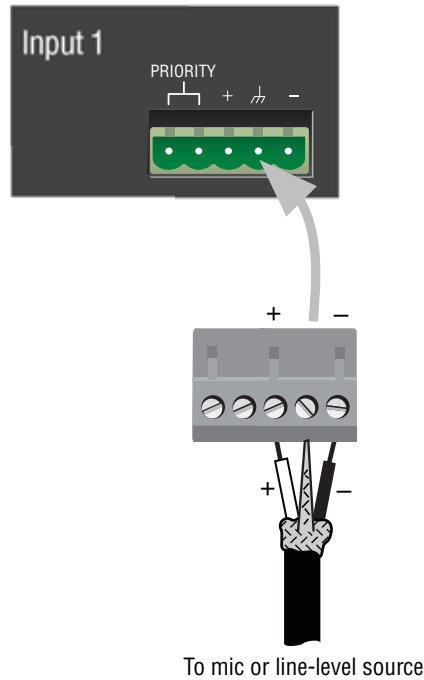

Figure 2.3 Mic/Line Connector
- **Mic/Line Connector (CH1):** 5-pin Phoenix-type, balanced, pins 3, 4 and 5 (Figure 2.3).